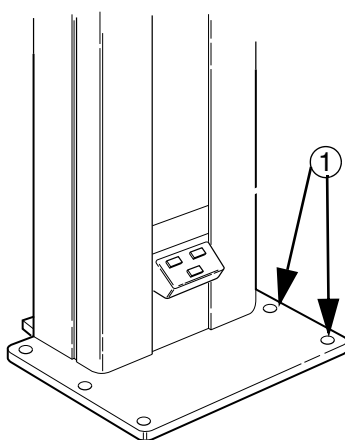

Fig. 2 Levelling screws
1. Align the stand vertically by means of the levelling screws (1/Fig. 2).